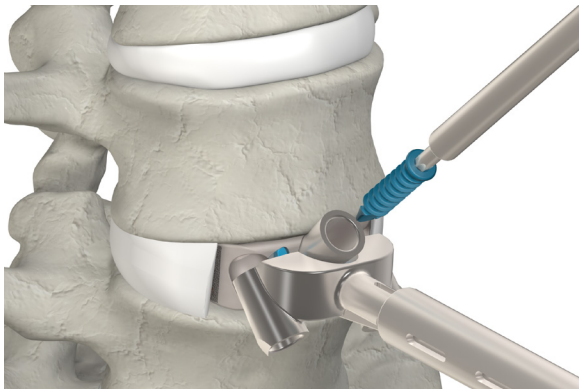
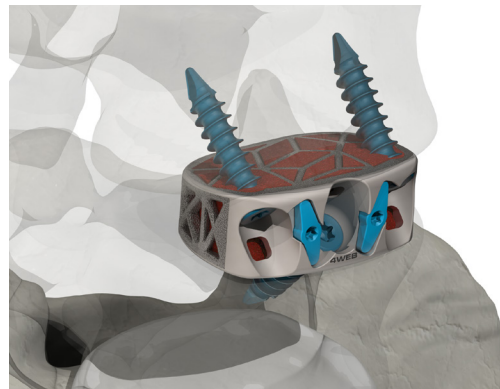

Figure 11
Figure 12
- ▲ Select the desired length screw and fix it to the distal end of the desired driver. Insert the screw through the Guide Hole on the Guided Inserter into in the implant (Fig. 11). Drive the screw until it is fully seated in the implant. Repeat this step for all three screws (Fig. 12).